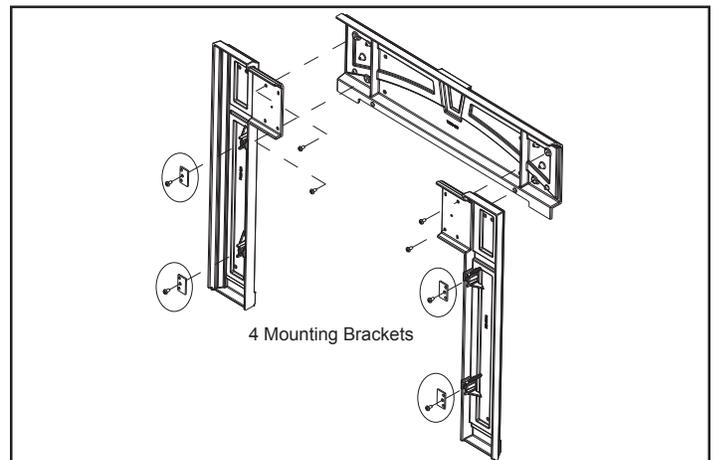

Figure 21.5
**Included in Surround Kit:** (2) side pieces, left and right; (1) top piece; (1) fastener package.
4. Attach the mounting brackets to the side pieces included with the kit. **Figure 21.5.**